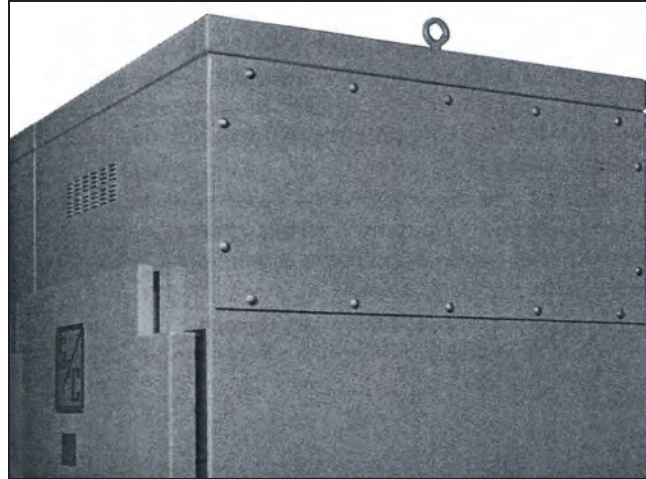
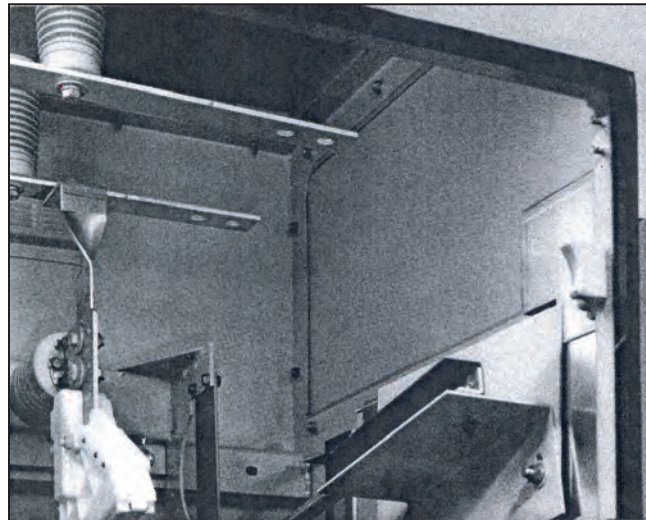
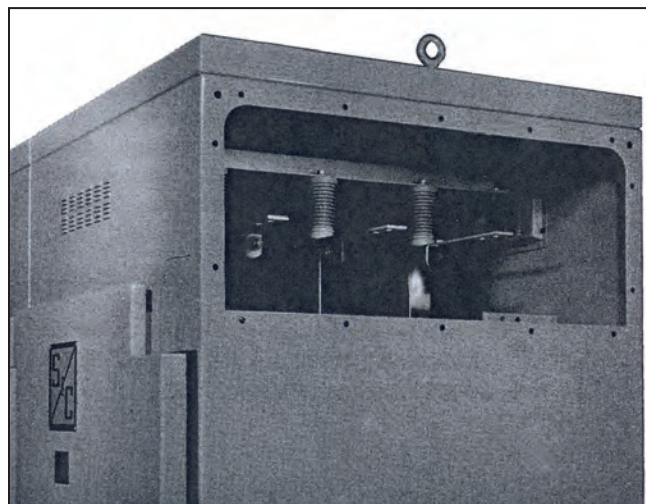

Figure 19. View of the end plate on an existing unit when the inner protective barrier is not furnished.
Figure 20. Interior view of the existing unit before removal of the end plate.
Figure 21. View of the end plate on an existing unit when the inner protective barrier is not furnished.
- STEP 2.** Remove the end plate from the existing bay by removing the appropriate hardware on the inside of the bay. Also, remove the knockouts for the ground bus and the bay-to-bay bolt holes. See Figure 19, Figure 20, and Figure 21. On outdoor assemblies, be sure to apply the gasket between the existing unit and the new unit. See Step 4 on page 11 and Figure 4 on page 11.